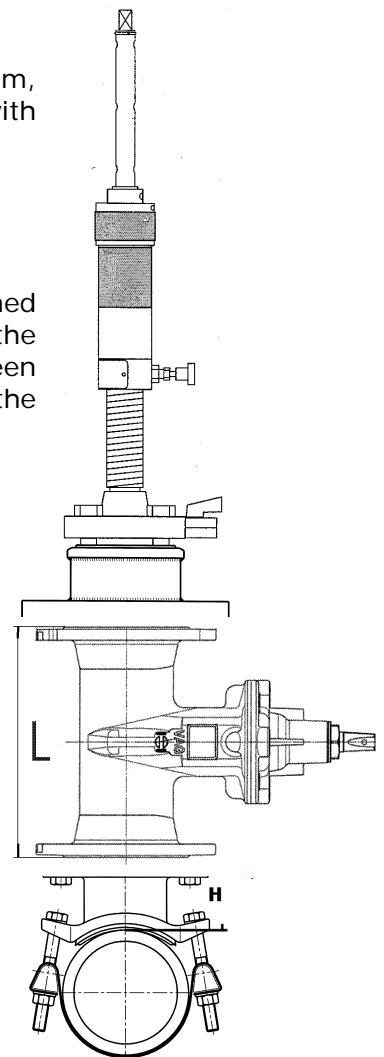

Figure 5
- Now assemble the **AcuDrill Plus** drilling machine onto the valve. Install the gasket of the corresponding size. See *Figure 5*.